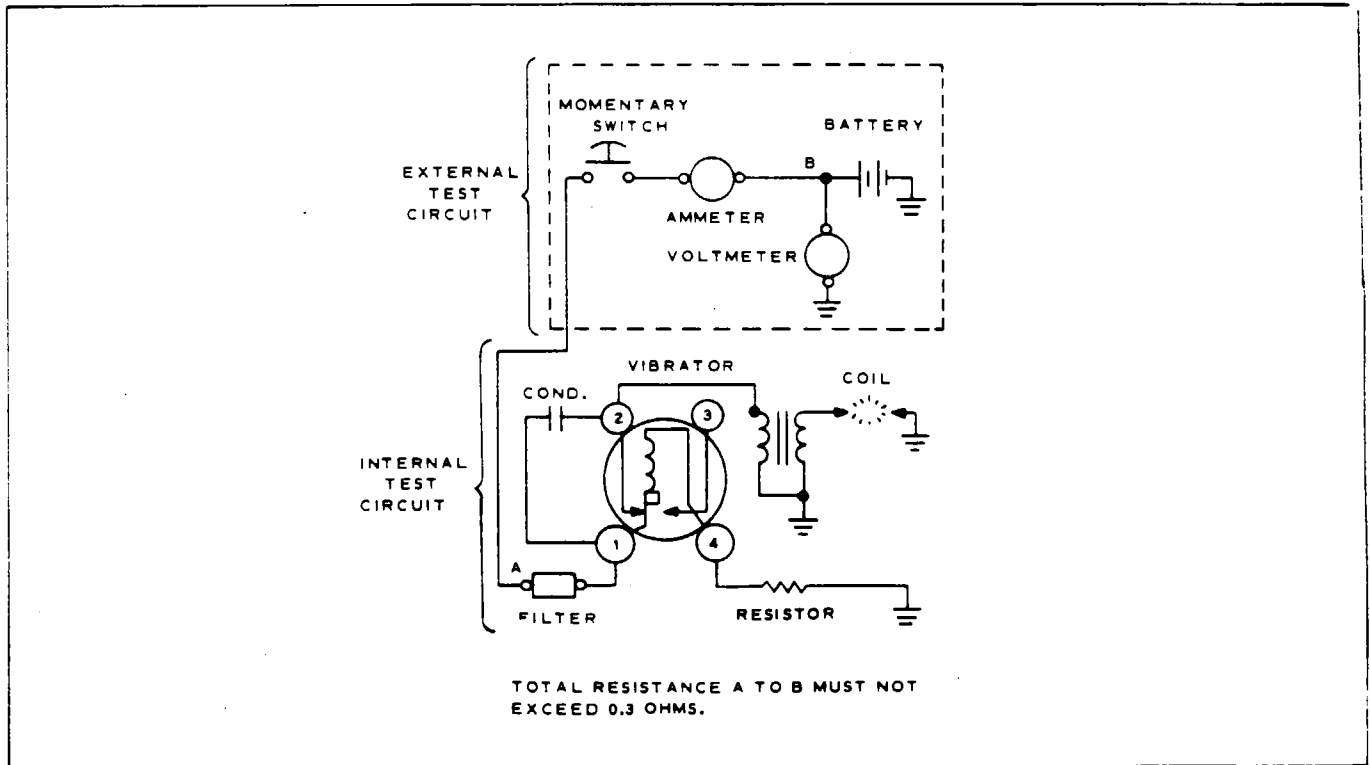

Figure 13-10. Wiring - Test Set-up
- f. Arrange the test equipment as shown in Figure 13-10.